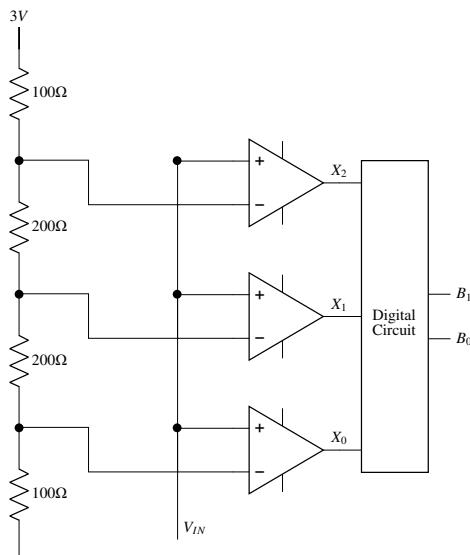

Fig. 3.18
35. A 2-bit flash Analog to Digital Converter (ADC) is given in Fig. 3.18. The input is  $0 \leq V_{IN} \leq 3$  Volts. The expression of the LSB of the output  $B_0$  as a boolean function of  $X_2, X_1$ , and  $X_0$  is